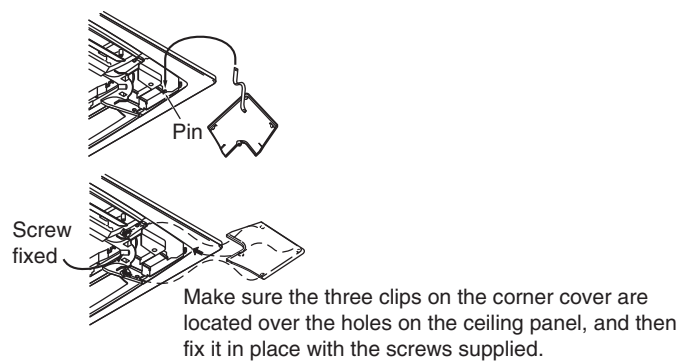

Fig. 8-4
- (5) Hang the string on the corner cover onto the pin on the ceiling panel as shown in the diagram. Then slide the corner cover onto the ceiling panel until the three clips are correctly located, and then fix it in place with the screws. (Fig. 8-4)